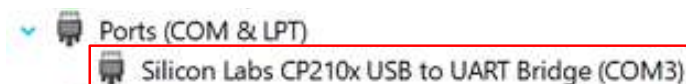

Figure 4: USB Port
Step 6: Select the correct “COM Port” (USB Port shown in **Figure 4** above).